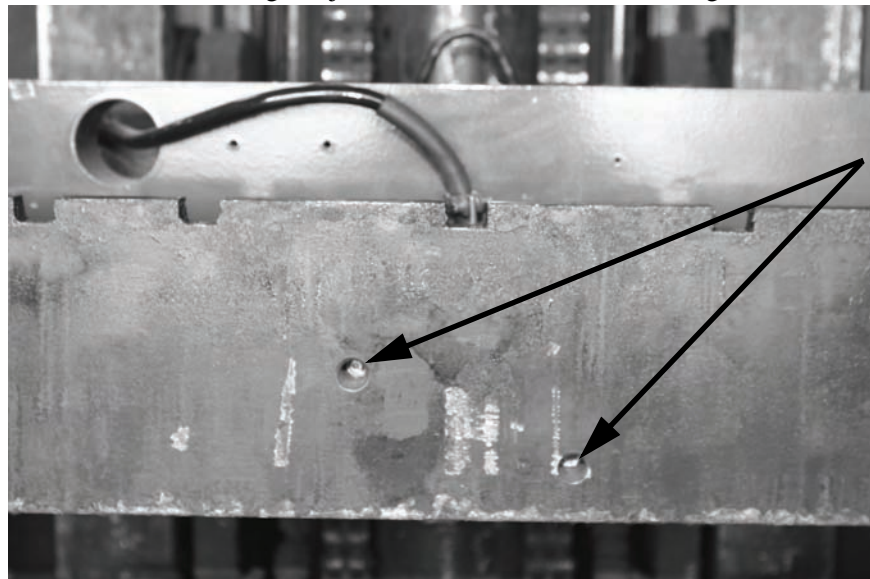

Figure 3-2. Screw Locations
4. Remove the two screws securing the junction box to the scale. See Figure 3-2 for screw location.